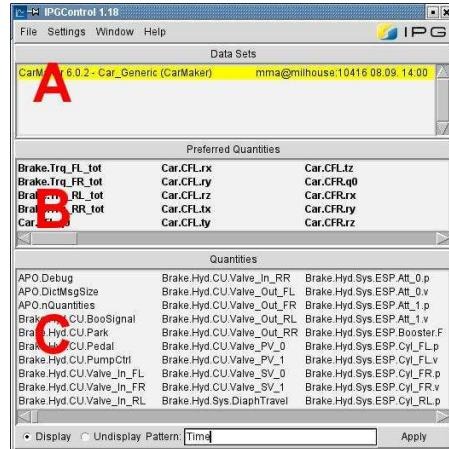
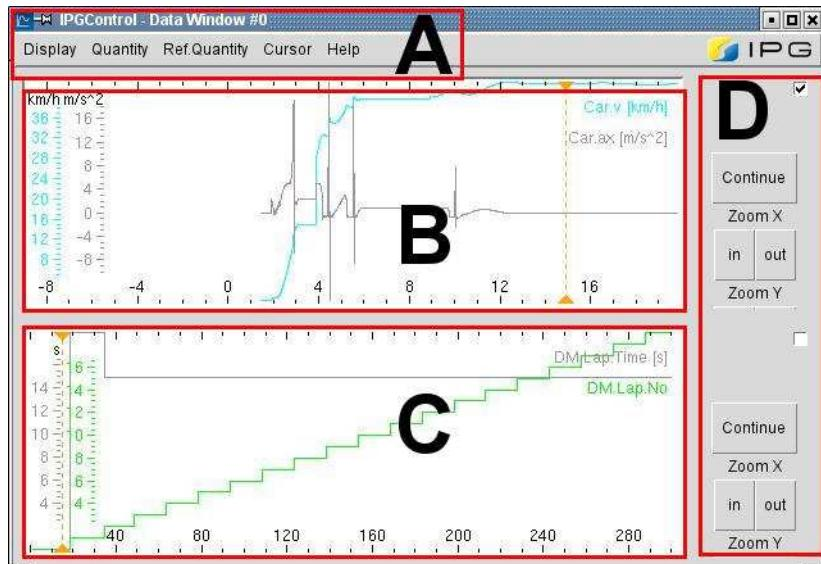

Figure 3.31: IPGControl GUI to choose quantities to be plotted in Data Window
Figure 3.32: Data Window:
IPGControl is the CarMaker analysis tool. Various simulation result files can be loaded (Figure 3.31 - section A) consecutively to plot and compare signals. Multiple diagrams can be generated and shown in one window - one below the other (Figure 3.32).
- Click in the lower diagram and go to the GUI. You can either search in section B/C (see Figure 3.31) and select the UAQ with LMB or you can copy-paste the name of the UAQ to the box in the bottom of the GUI and press enter.